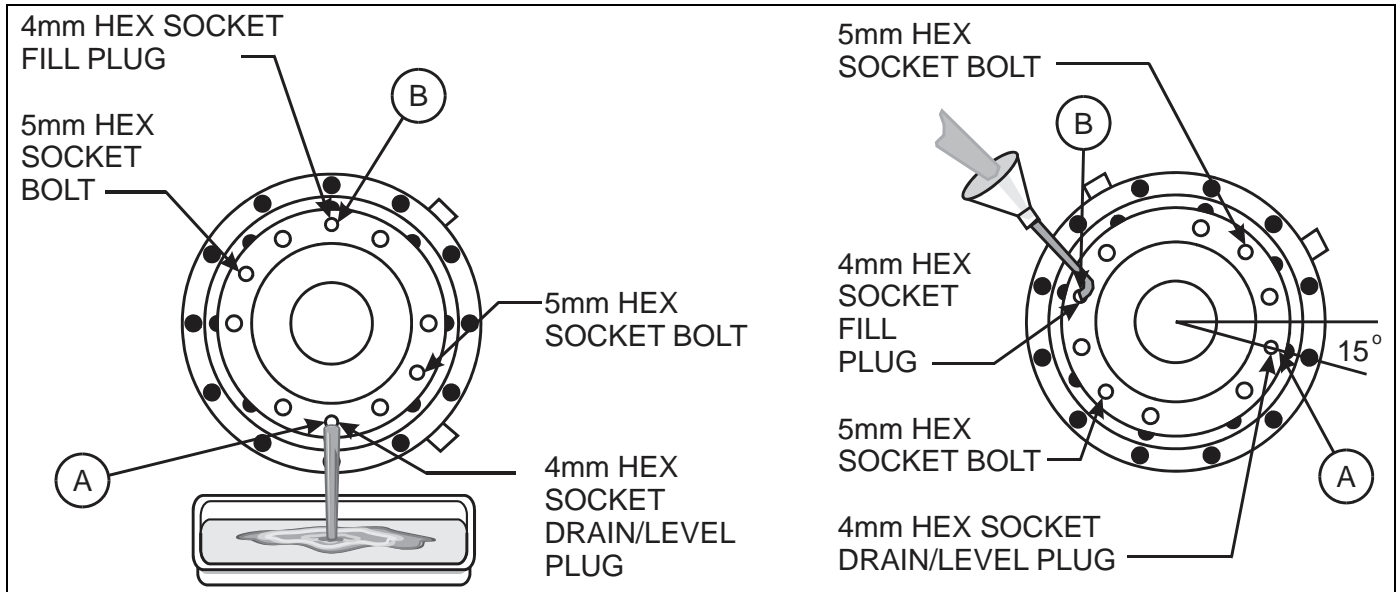

Figure 3-16: Drain/Fill Gearbox
8. To drain, turn the gear box so that one of the drain plugs is at the lowest point. If rotating the gear box proves difficult, brace a 2" x 4" (5cm x 10cm) block between the wheel studs and rotate. See Figure 3-16.